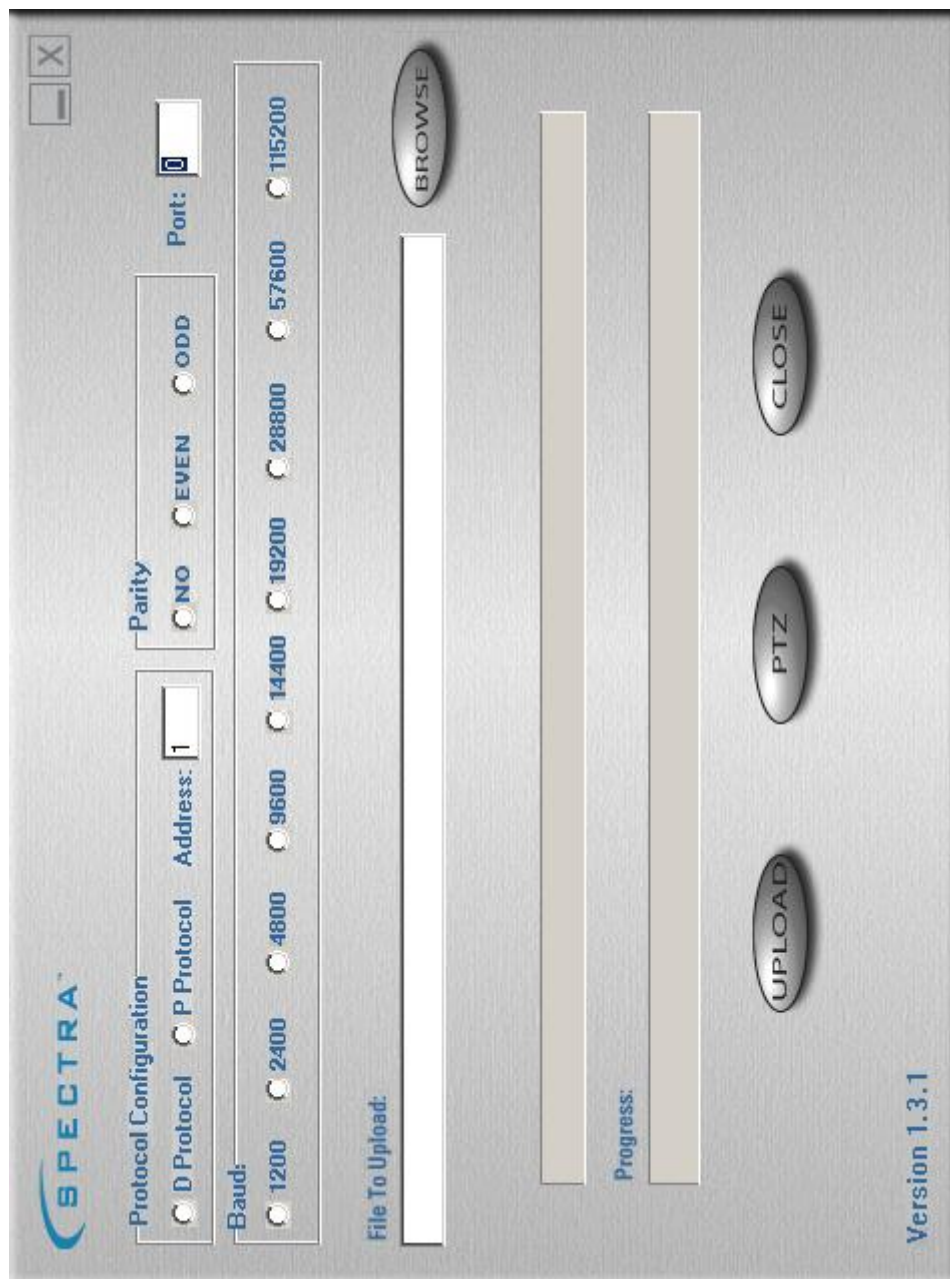

Figure 3: Main screen of the downloader for rev 1.3.1
2. Parity was always selected as “No” and the on screen selection was ignored. (Figure 3, page 10) This has been fixed.
3. The Downloader screen that I started with is in Figure 3, page 10. In this version support for a numbered COM port was added in. The invalid baud rate is still there.